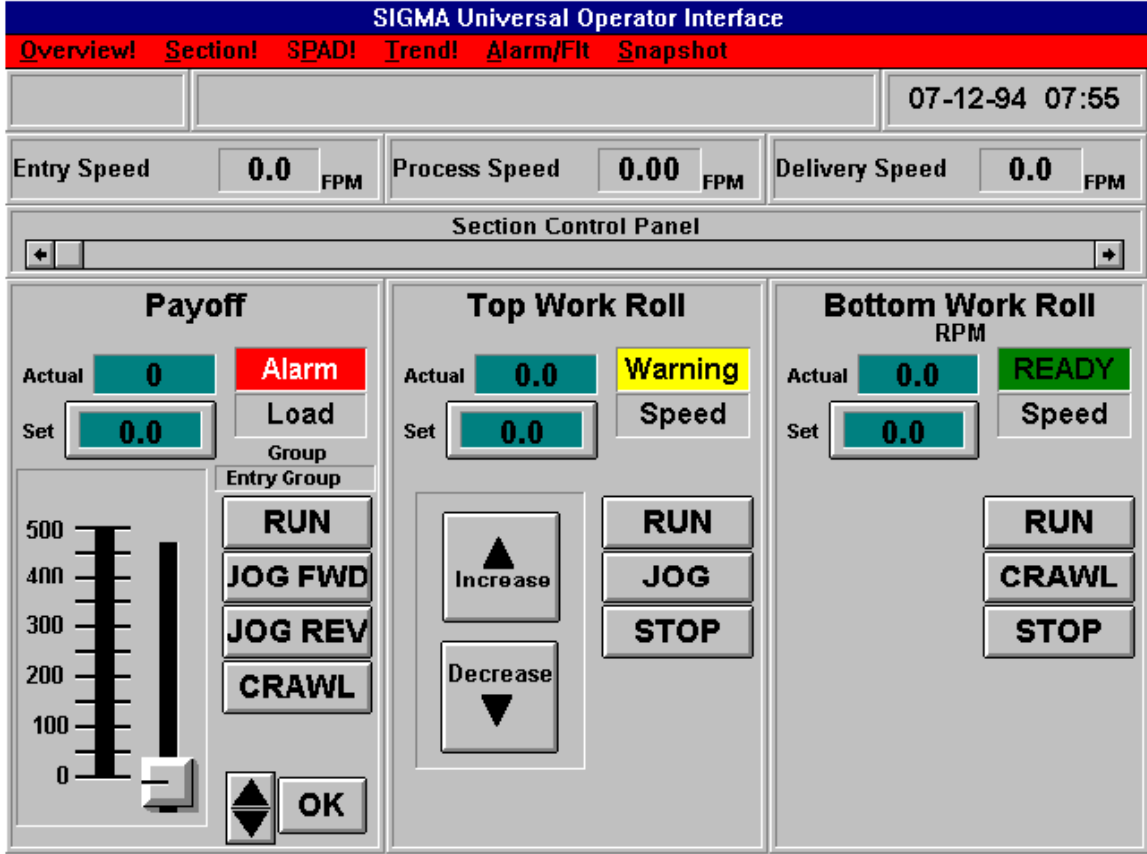

Figure 6-17 The Section Screen
- increase/decrease push-buttons (optional feature) - see Figure 6-17
Clicking the **Section!** option from the **Main Menu** displays the **Section Screen**. An example is shown in Figure 6-17. The Section Screen contains a horizontal scrollable list of section control boxes. Three boxes are visible on the screen at a time. Both the Section Screen and a single "Section Control" window in the Drive Overview Screen (refer to section 6.1) are the same for a given section.